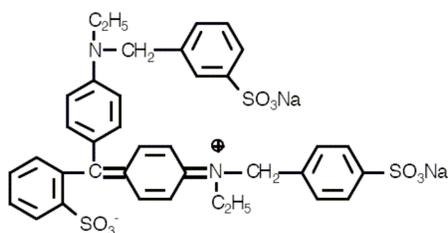
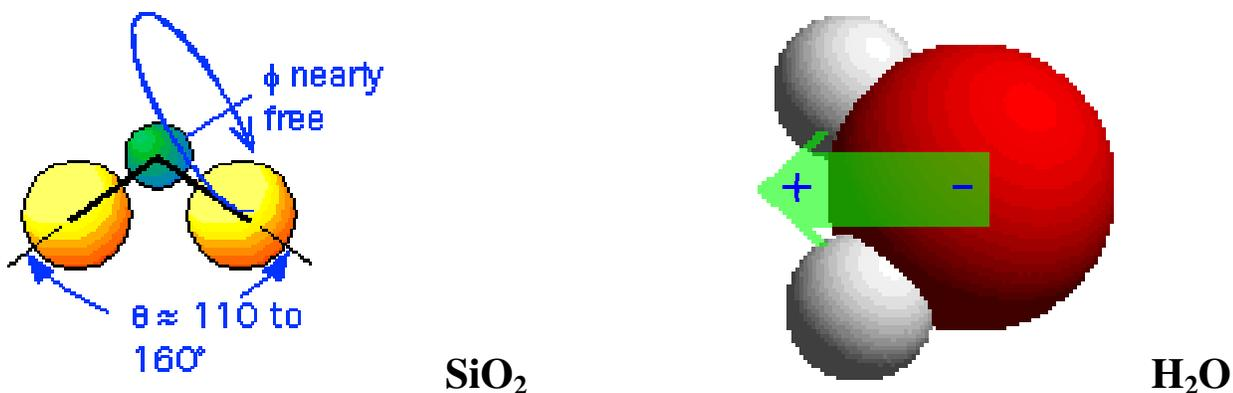

Figure 4.1
Figure 4.2
Column chromatography is a useful procedure when trying to separate compounds in a mixture with high volumes. In this demonstration you are to isolate the red compound from the purple mixture using column chromatography. The column will be filled with silica gel (SiO_2). The mobile phase in this procedure will be water. Seeing that silica gel and water are both polar they will have a greater affinity to the compounds in the purple mixture that are charged. The compounds that are not charged will penetrate the membrane and will be collected at the bottom of the column. For our sake let's assume that the purple mixture is soda, and we want to separate the soda from any antibiotics that might have gotten into them through manufacturing. The antibiotics in this situation will be Red 40 color (Figure 4.1). You will have success if you are able to separate the red compound from the purple mixture. Good Luck!
3. Water is polar and so is silica gel, given this information and by looking at the chemical structures of red 40 and blue 1 on figure 4.1 and SiO₂ and Water on Figure 4.2, why is it that the red compound was able to be separated from the purple mixture.